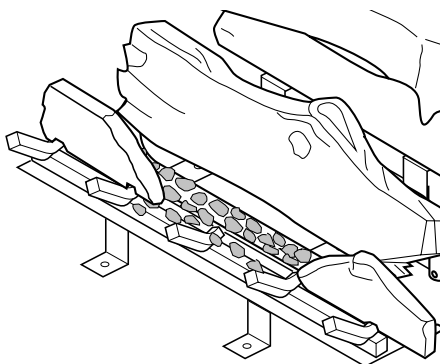

Figure 55 - Placing Ember Material on Burner
7. Pull ember material apart into pieces no larger than a dime. Place these pieces loosely and sparingly directly onto the exposed section of the front burner and along the space between the burner and grate prongs (see Figure 55). This will create the glowing ember appearance as the flame touches the ember material. Do not block air slots by using too much ember material in one area. It is not necessary to use all of the ember material provided.